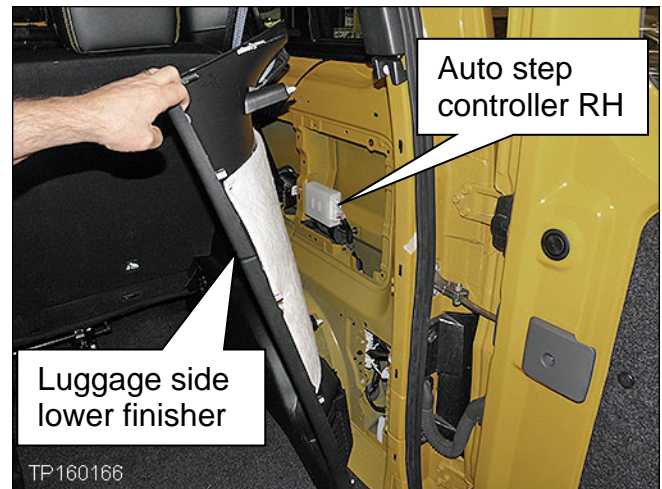

Figure 24
- The left side luggage lower finisher and auto step controller LH are a mirror image of Figures 24 and 25.